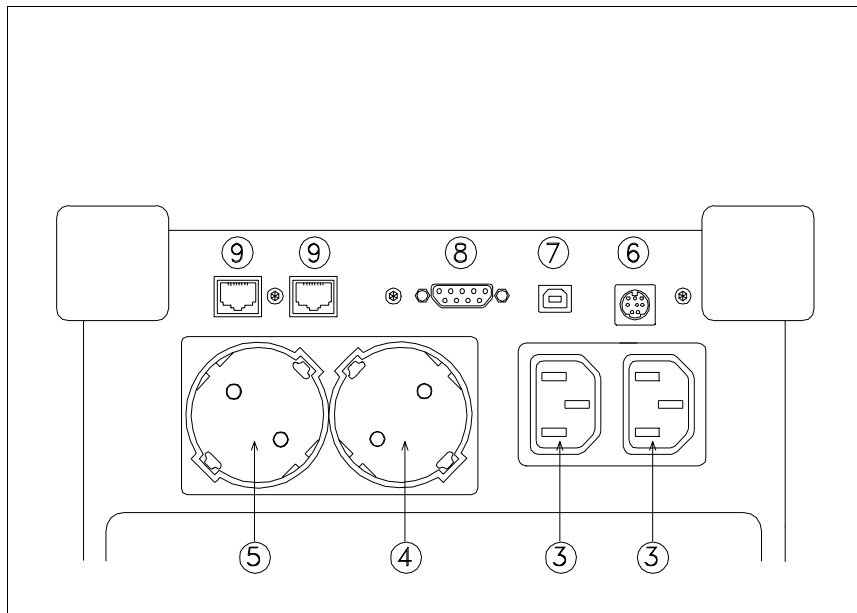

Figure 2
2. Connect the remote control to the proper connector (see figure 2, number 6).
10. Use LEONARDO output outlets for feeding the Computer and peripherals,. Refer to figure 2. **ATTENTION: the output outlets marked with numbers 3 and 4 are the UPS output outlets so they will continue to supply power in case of a black-out, while the output outlet marked with number 5 (the edge is in Silver colour) is ONLY A FILTERED output, IT IS NOT an UPS output outlet: do not feed any critical device through this outlet.**
- **ATTENTION: LEONARDO is gifted with 3 UPS output outlets (see figure 2, number 3 and 4) and one filtered output outlet for protection against spike and surge (see figure 2 number 5). This outlet protects the connected devices against overvoltages and any disturbances on the electrical network but does not supply electricity in case of a black out. If there is failure on the electrical mains the UPS output outlets continue to supply suitable power to the connected devices.**
Remote control connection	Check that the remote control is correctly connected to LEONARDO (see figure 2, number 6)